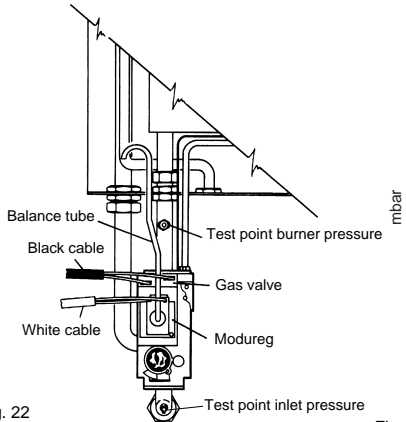

Fig. 22
- Loosen the screw in the burner pressure test point (fig. 22) and attach a gauge.
- e. Disconnect one of the wires from the «Modureg» (fig. 22), this will reduce the burner to minimum which should read 2.7 mbar \pm 0.5 mbar. If the burner pressure is not as stated check the inlet working pressure (fig. 22) which should be minimum 20 mbar. If that is correct, consult Ferrolli. No attempt should be made to alter D.H.W. burner pressure.